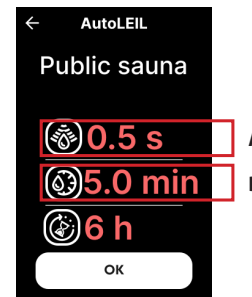

Figure 21
**!** After making the switch, only **Public Sauna mode** is available in **AutoLEIL settings** (Fig.21).
**We recommend configuring the water dispensing to a small water quantity and adequate water dispensing intervals to avoid cooling the stones, for example a 0.5 sec (Fig.21 A) water splash at 3-to-5-minute intervals (Fig.21 B).**